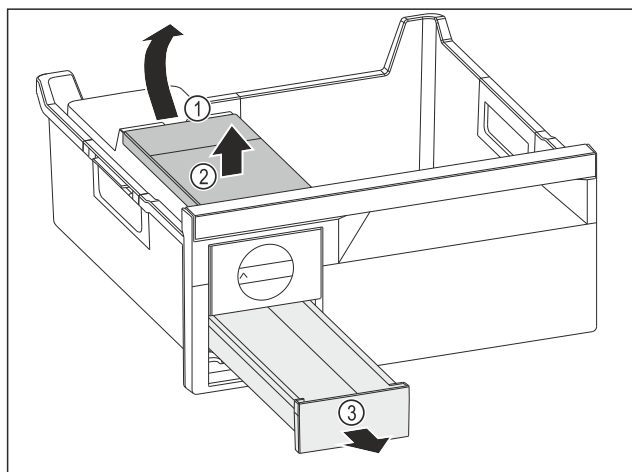

Fig. 123
- ▶ Removing the water tank: Lift the water tank by the recess Fig. 123 (1).
- ▶ Remove the water tank Fig. 123 (2) upwards.
- ▶ Remove the ice cube drawer Fig. 123 (3) to the front.